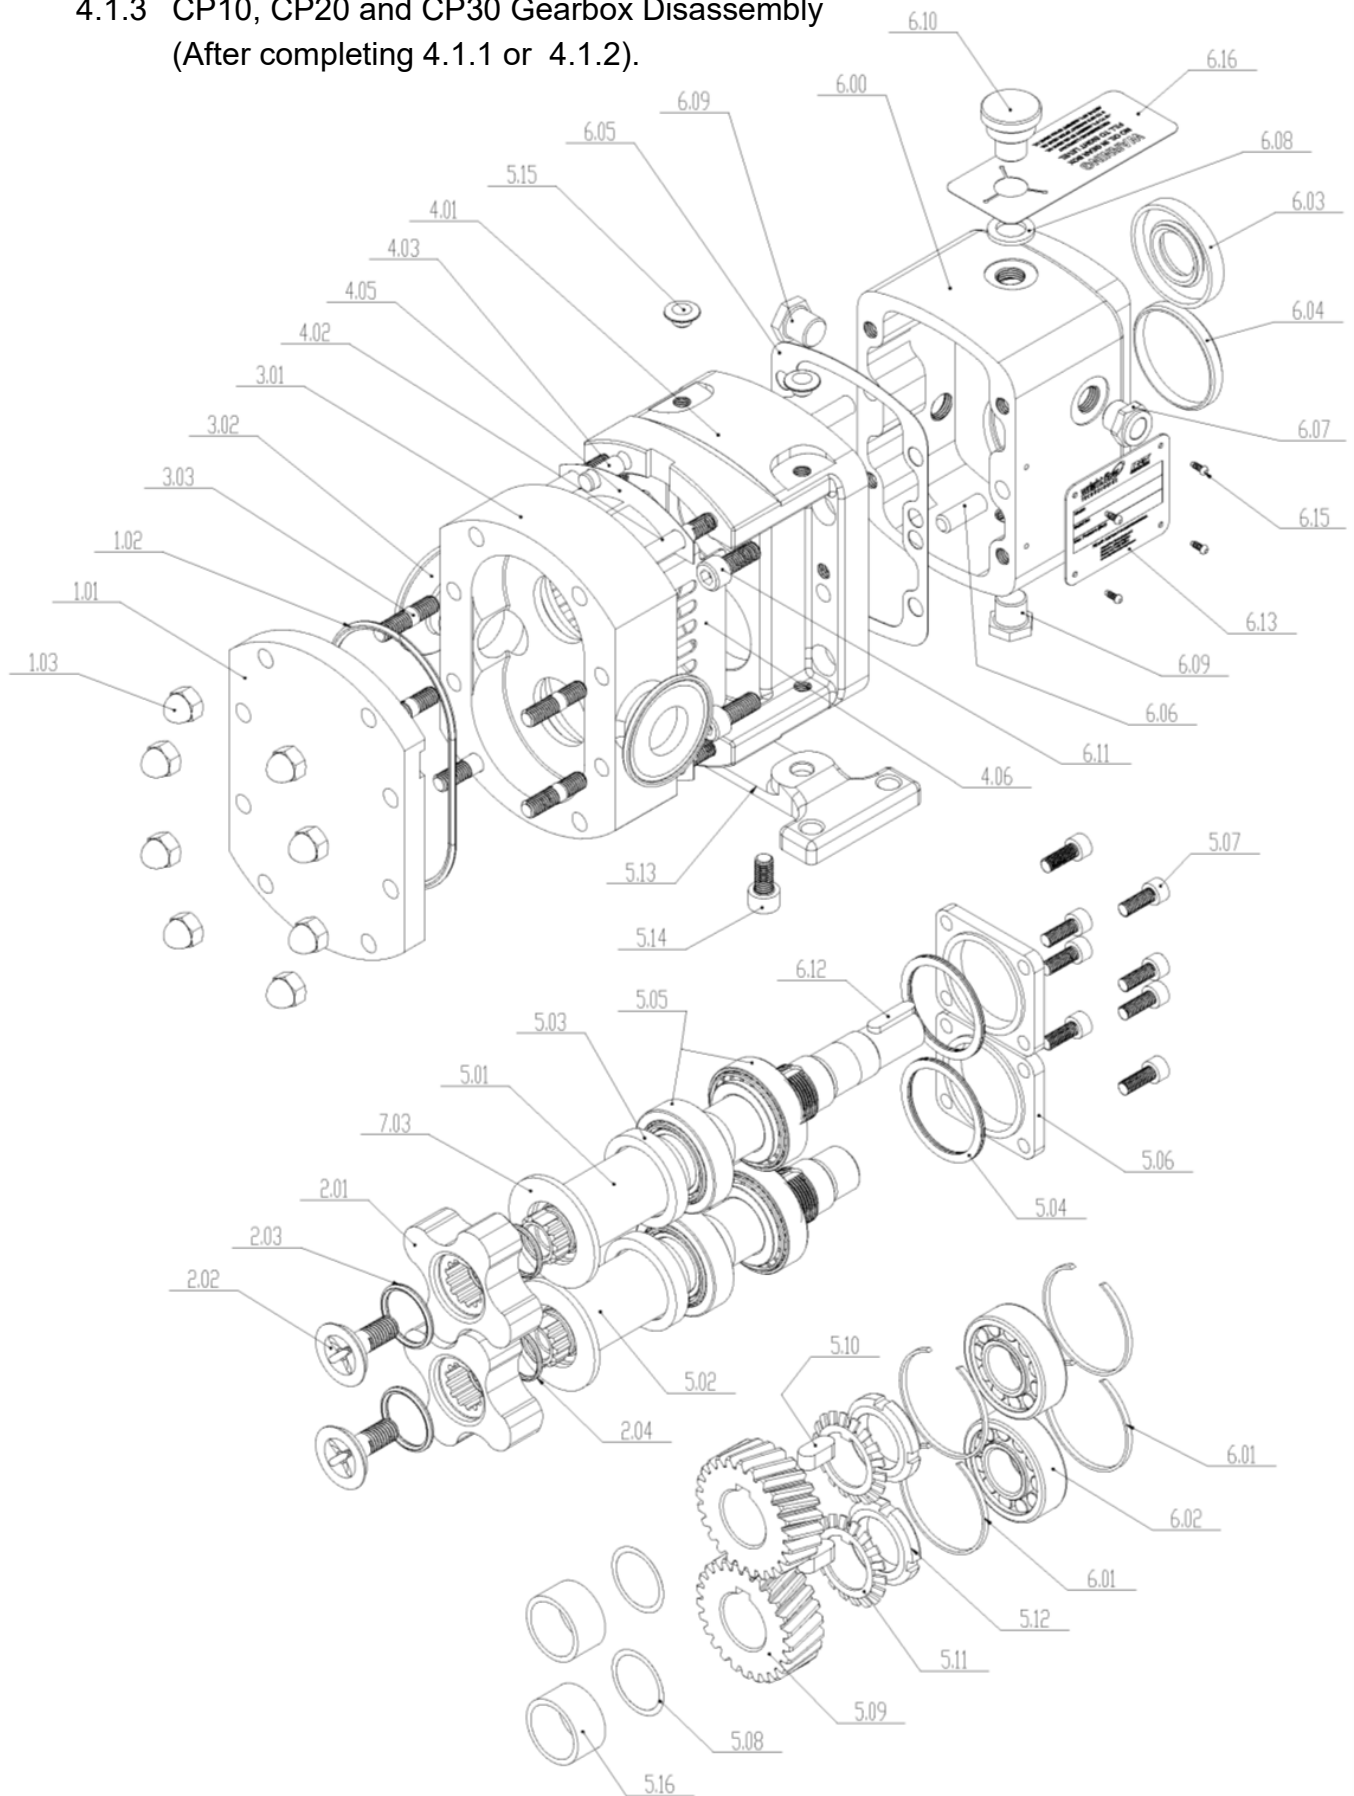
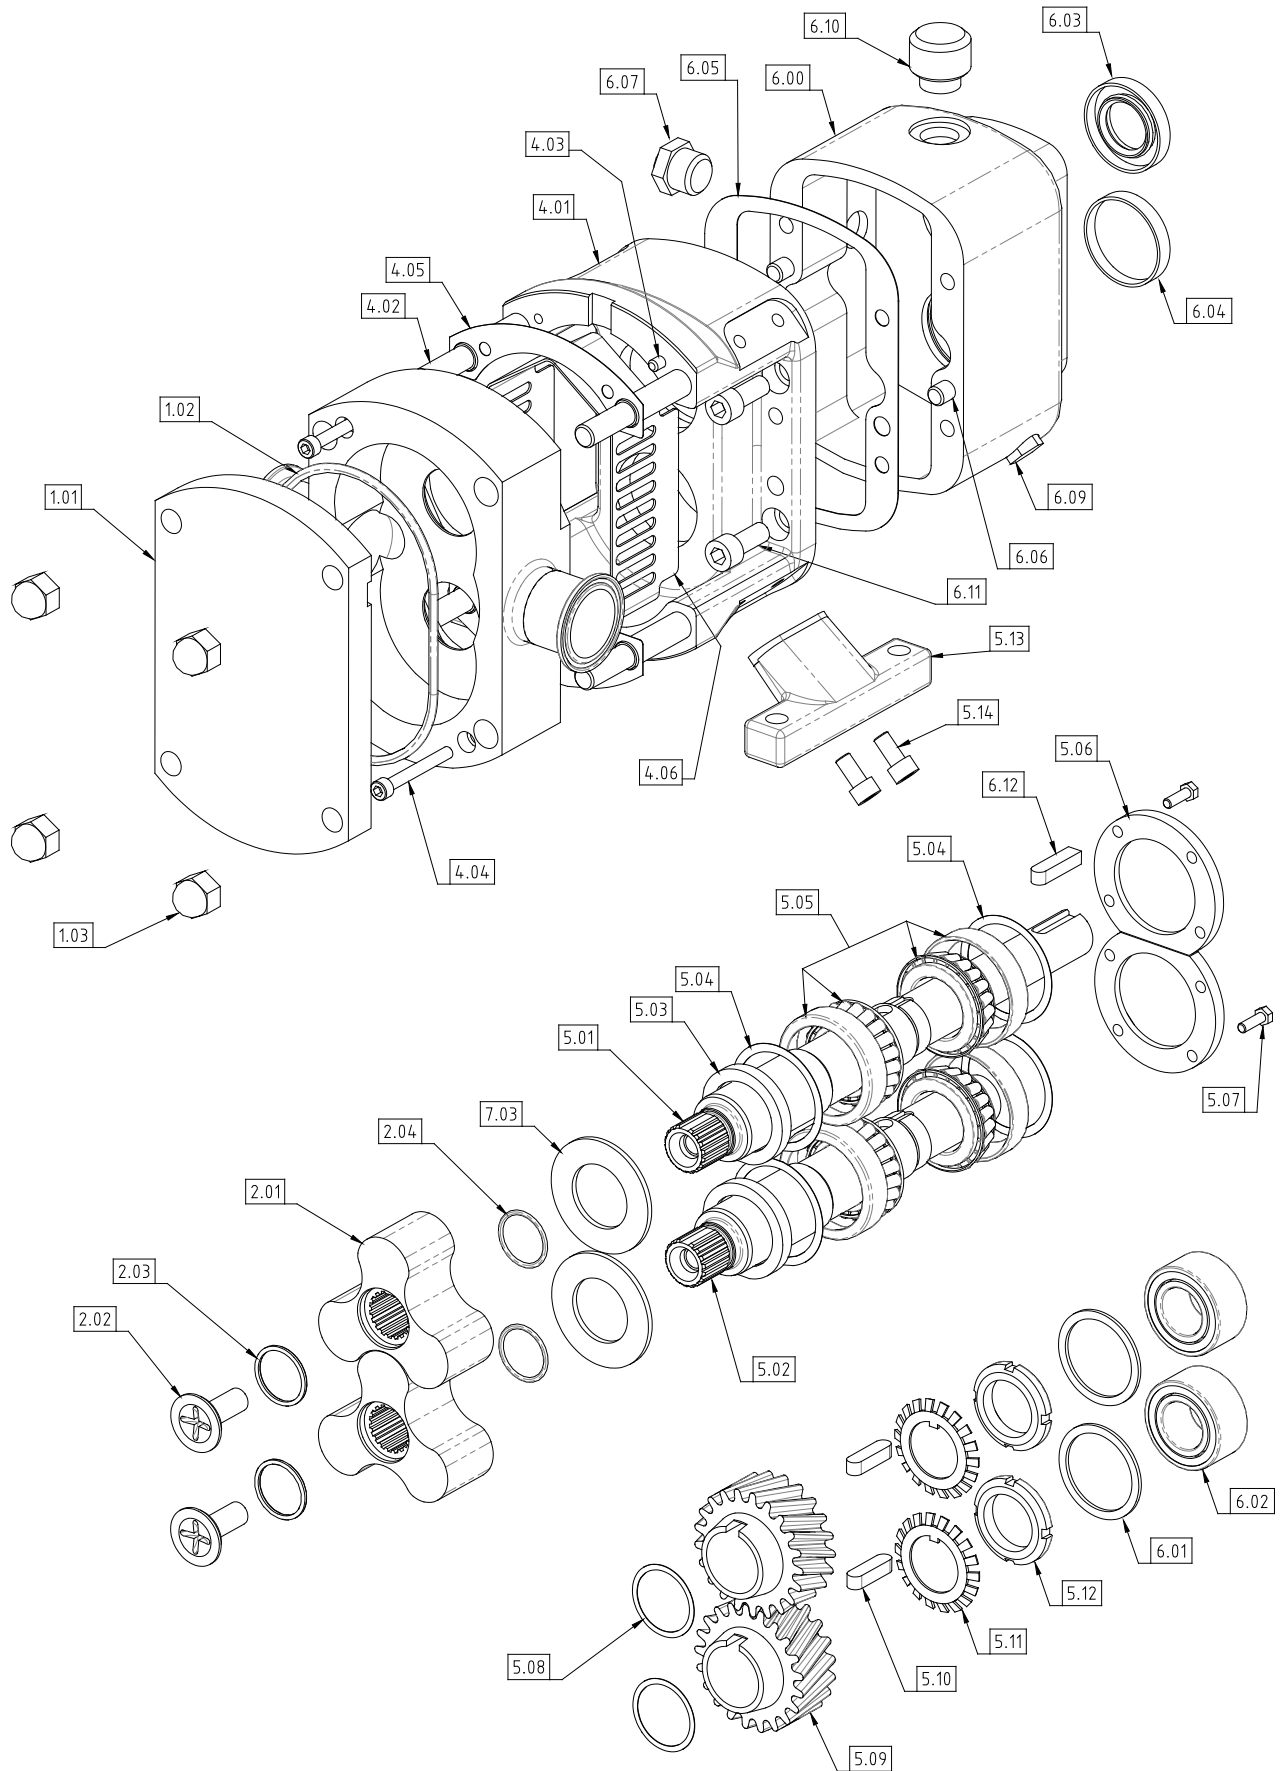

Fig 22 CP10 Component Parts
Fig 23 CP20 and CP30 Component Parts
- Refer to Fig 22 for CP10; Refer to Fig 33 for CP20 and CP30.
- Remove drive key (6.12).
Refer to Fig 22 for CP10 or Fig 23 for CP20 and CP30.